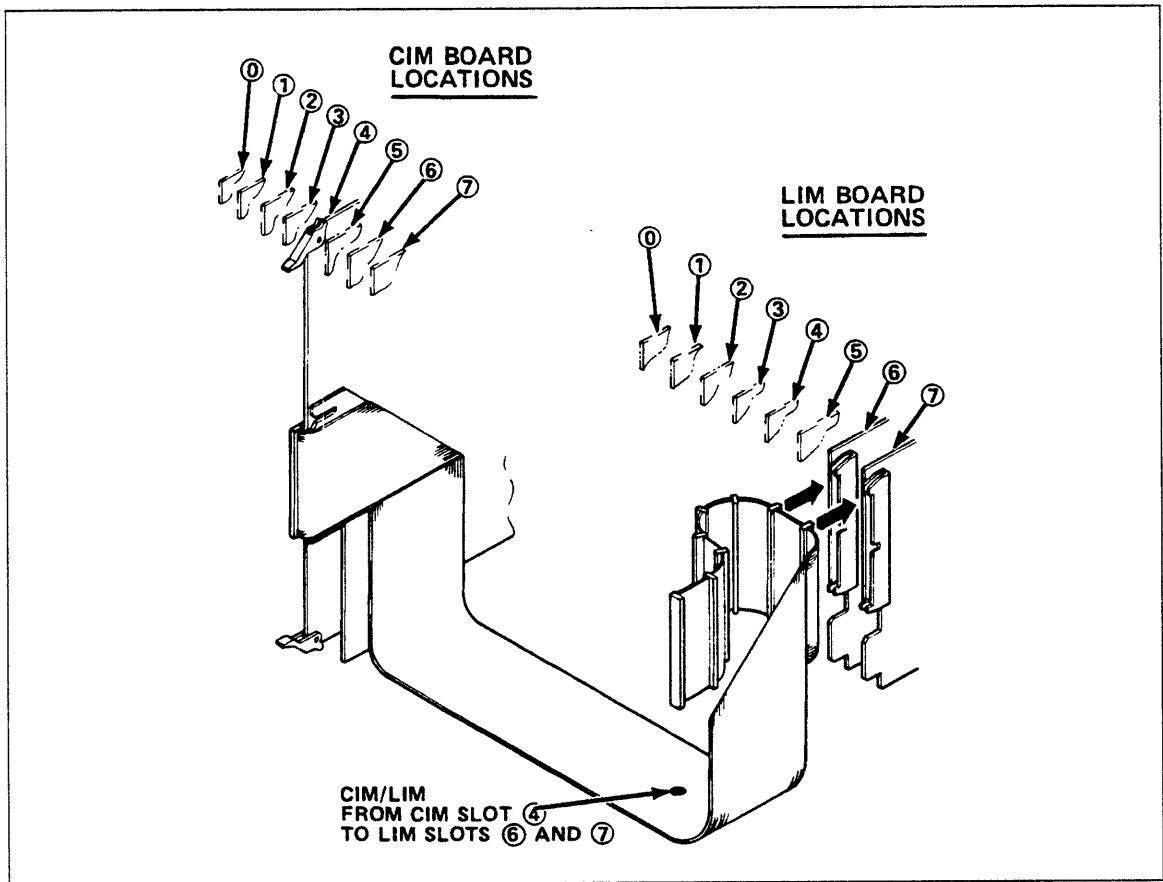

Figure 3-42. Installing First CIM/LIM Cable
4. Connect cable to LIMs 6 and 7 as follows (figure 3-42):